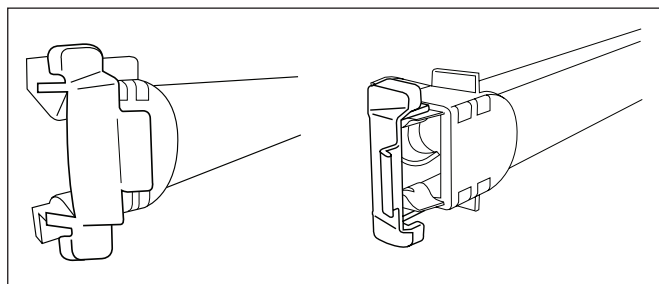

Figure 3
2. To open, flip the track stop toward the outside of the tub. After opening both track stops, pull top rack out of the rails. See figure 3.